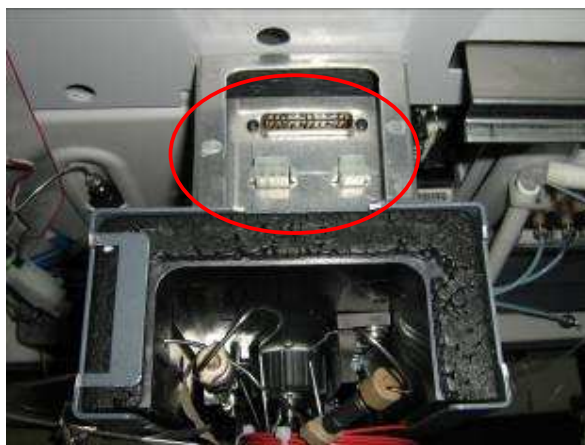

Figure 16: Reconnecting the electronic looms to the column heater
17. Reconnect the 3 electrical looms back to the left side of the column oven (Figure 16) . Make sure that you connect the grounding wire.